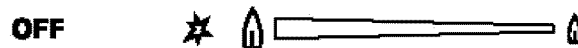

Fig. 2
4. If only the inner burner is needed, continue to rotate the gas control knob counterclockwise somewhere past grey area-Fig. 2.